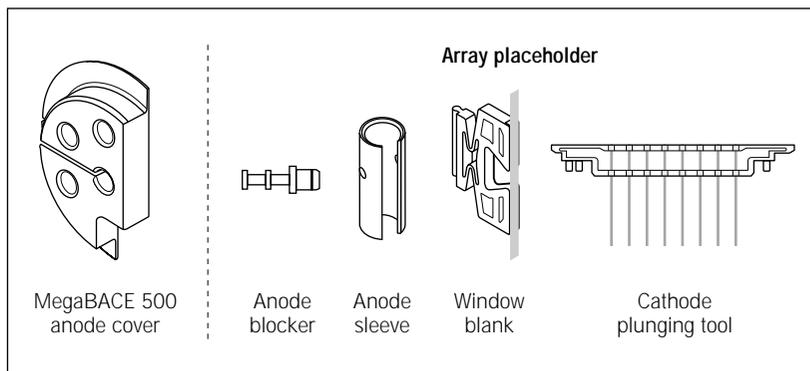

Figure 1-2. Additional components (MegaBACE 500 and flexible MegaBACE 1000 instruments only).
- **(MegaBACE 500 and flexible MegaBACE 1000 instruments only) Additional components**—MegaBACE 500 anode cover, and for both models, an array placeholder, which consists of an anode blocker, an anode sleeve, a window blank, and a cathode plunging tool (figure 1-2).